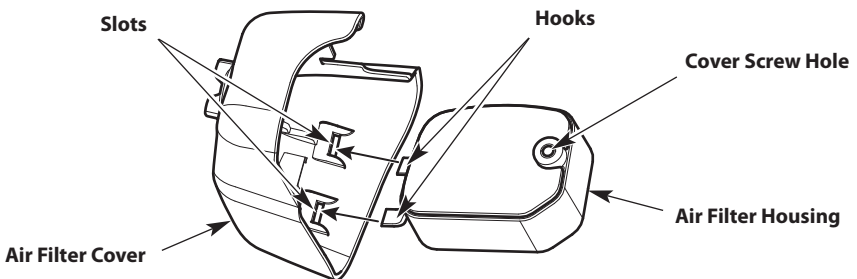

Fig. 18
7. Insert the hooks on the air filter housing into the slots on the air filter cover (Fig. 18).
8. Swing the air filter cover to the right and align the cover screw with the cover screw hole (Fig. 18). Tighten the cover screw to secure the air filter cover.